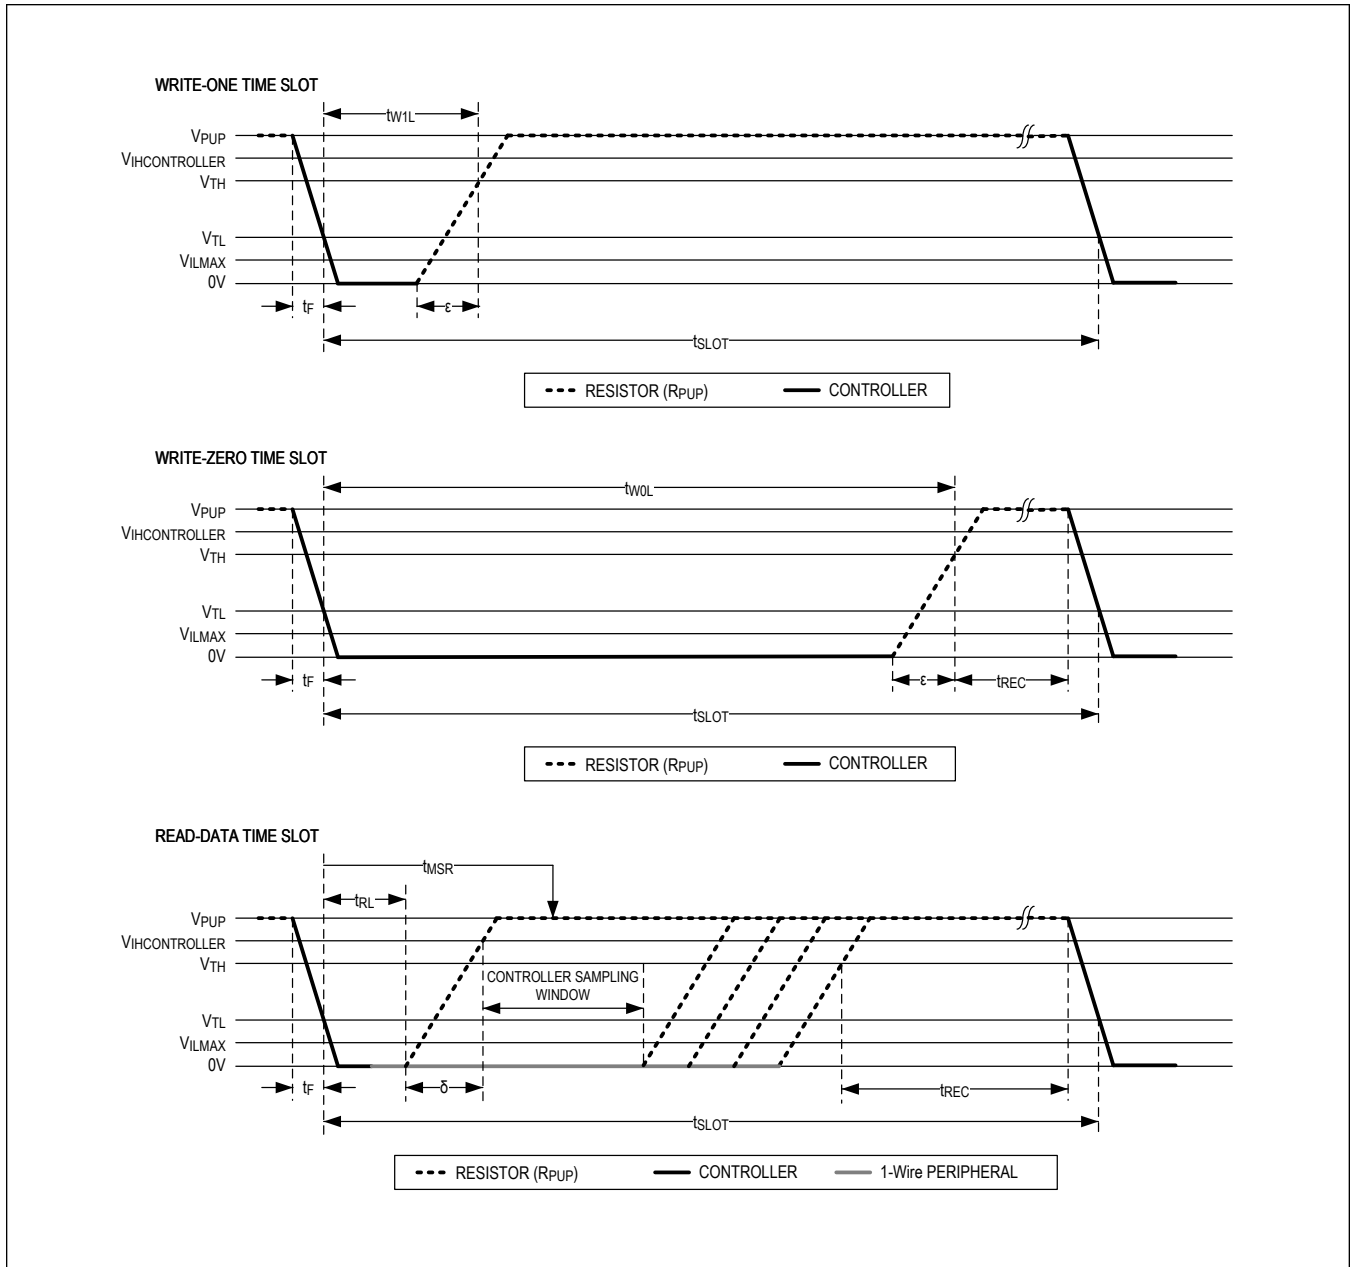

Figure 4. Read/Write Timing Diagrams
- Note 13:** System requirement. ϵ in Figure 4 represents the time required for the pullup circuitry to pull the voltage on IO up from V_{IL} to V_{TH} . The actual maximum duration for the controller to pull the line low is $t_{W1LMAX} + t_F - \epsilon$ and $t_{W0LMAX} + t_F - \epsilon$, respectively.
- Note 14:** System requirement. δ in Figure 4 represents the time required for the pullup circuitry to pull the voltage on IO up from V_{IL} to the input-high threshold of the bus controller. The actual maximum duration for the controller to pull the line low is $t_{RLMAX} + t_F$.
Data communication with the DS28E50 takes place in time slots that carry a single bit each. Write time slots transport data from bus controller to peripheral. Read time slots transfer data from peripheral to controller. Figure 4 illustrates the definitions of the write and read time slots. All communication begins with the controller pulling the data line low. As the voltage on the 1-Wire line falls below the threshold V_{TL} , the DS28E50 starts its internal timing generator that determines when the data line is sampled during a write time slot and how long data is valid during a read time slot.